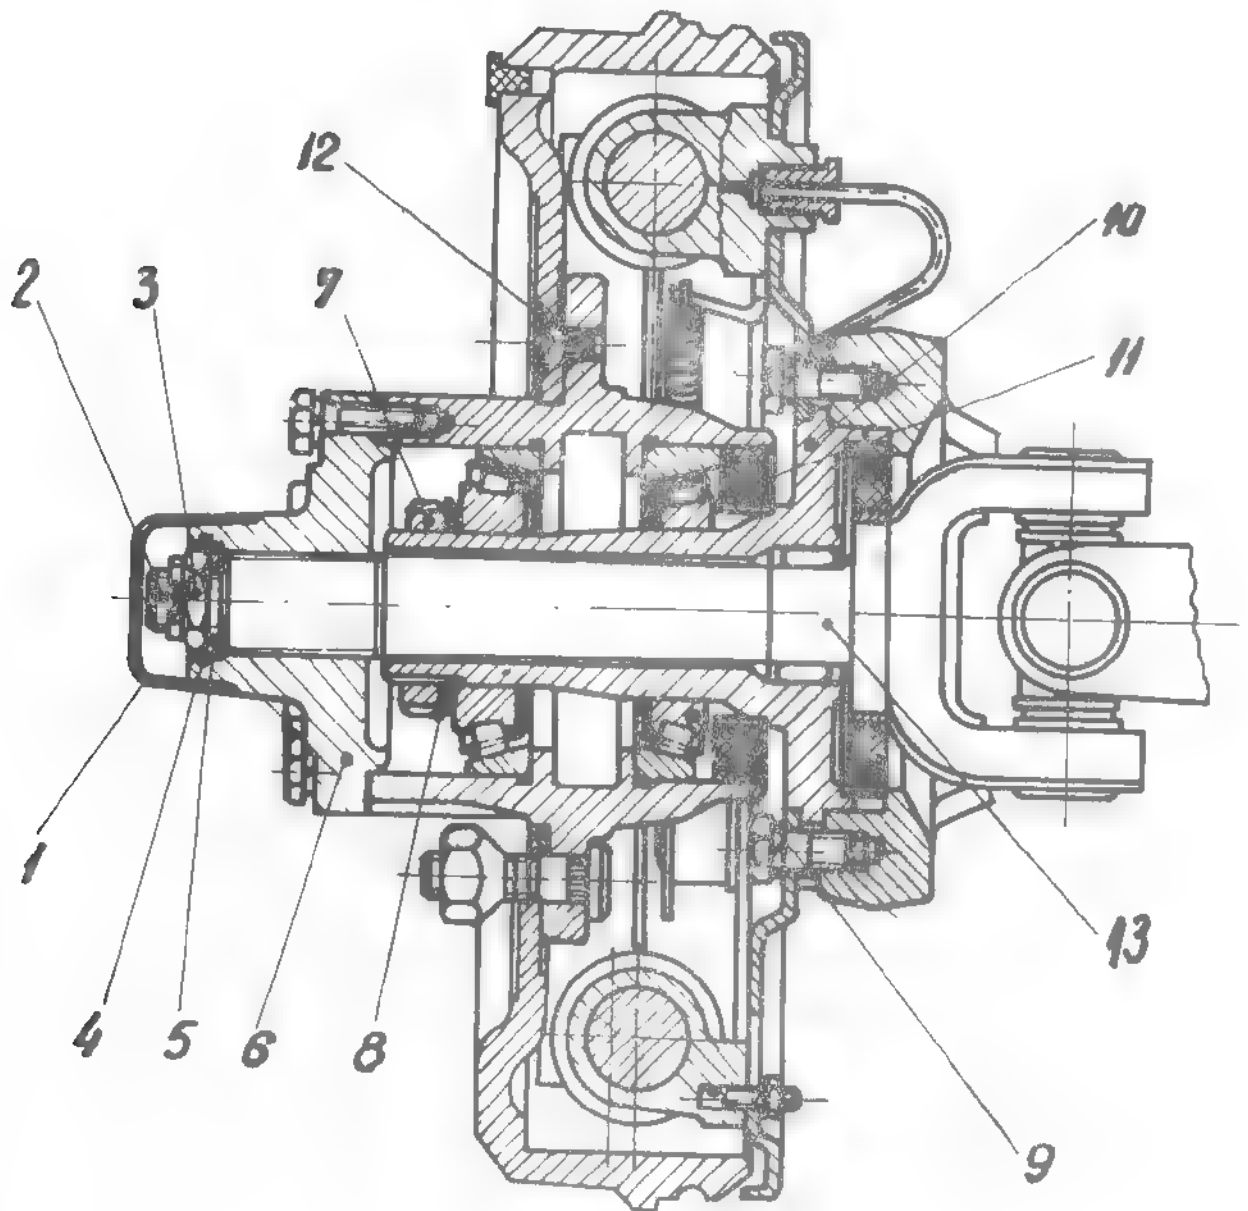

Fig. 2.10. FRONT WHEEL BRAKE DRUM KING PIN ASSY.
- Remove the axle cap, by means of S.121 extractor, and the O-Ring seal (see fig. 2.10).
FLANGE (see fig.2.10 and 2.11)
- Unscrew bolts fastening brake anchor plate and outer flange on the steering knukle (see fig.2.10). Remove brake anchor plate.